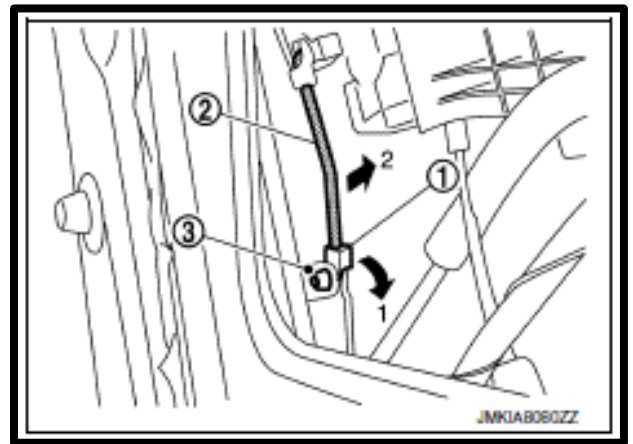

Figure 5
- Open yellow key rod holder (1) by pulling downward and separate key rod (3) from door lock assembly (2). See Figure 5.